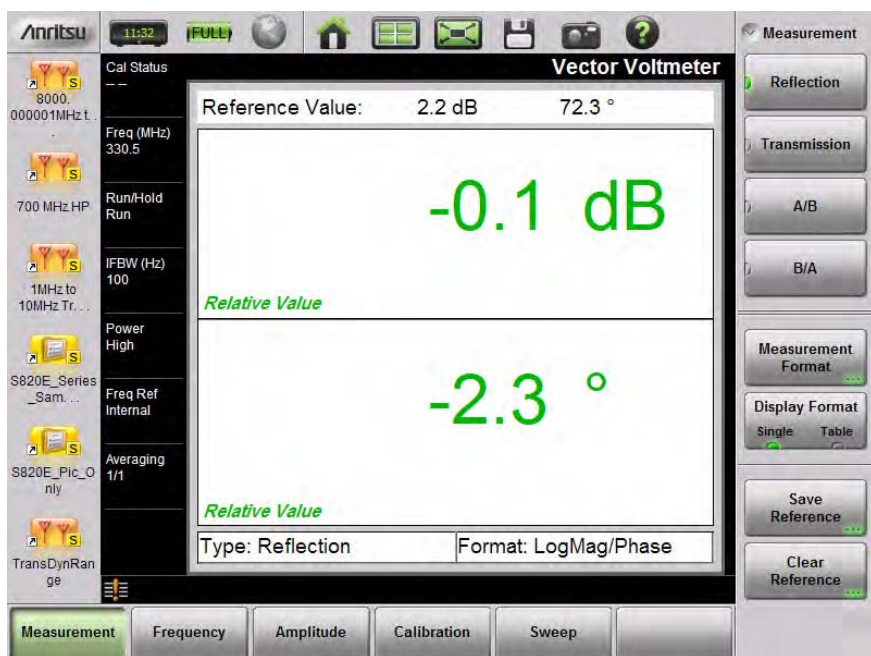

Figure 8-7. Relative Reflection Measurement
5. As shown in Figure 8-7, the current measurement is saved and displayed as the Reference Value (at the top of the VVM display). The displayed values are now relative to the saved values, which are the difference between the current measurement and the saved reference. In other words, saving a reference will normalize the results to the current measurement.